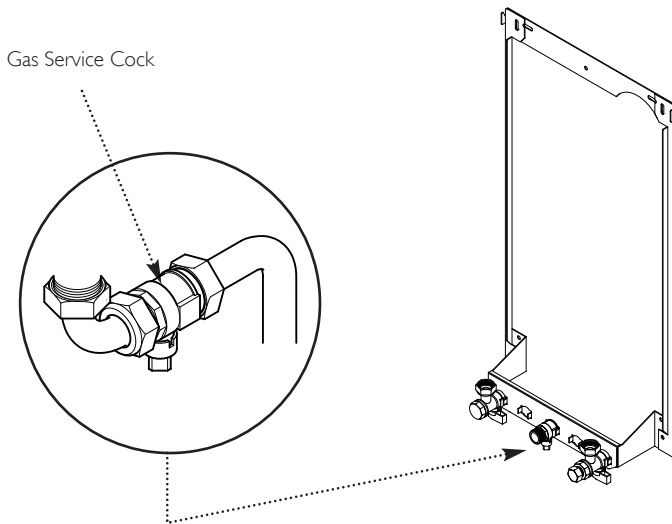

Fig. 7
2. The connection to the appliance is a 3/4" copper tail located at the rear of the gas service cock (Fig. 7).